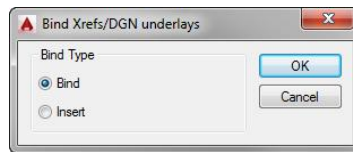

FIGURE 13.37: The Bind Xrefs/DGN Underlays dialog box
2. Choose Bind from the context menu to open the Bind Xrefs/DGN Underlays dialog box (see Figure 13.37).